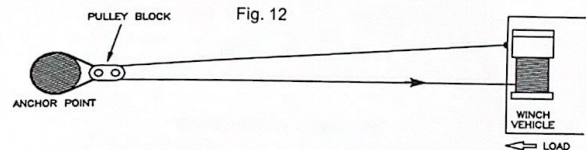

Fig. 12
4. Figure 12 illustrates a method of rigging used to obtain a mechanical advantage. The use of a pulley block will almost double pulling line capacity.